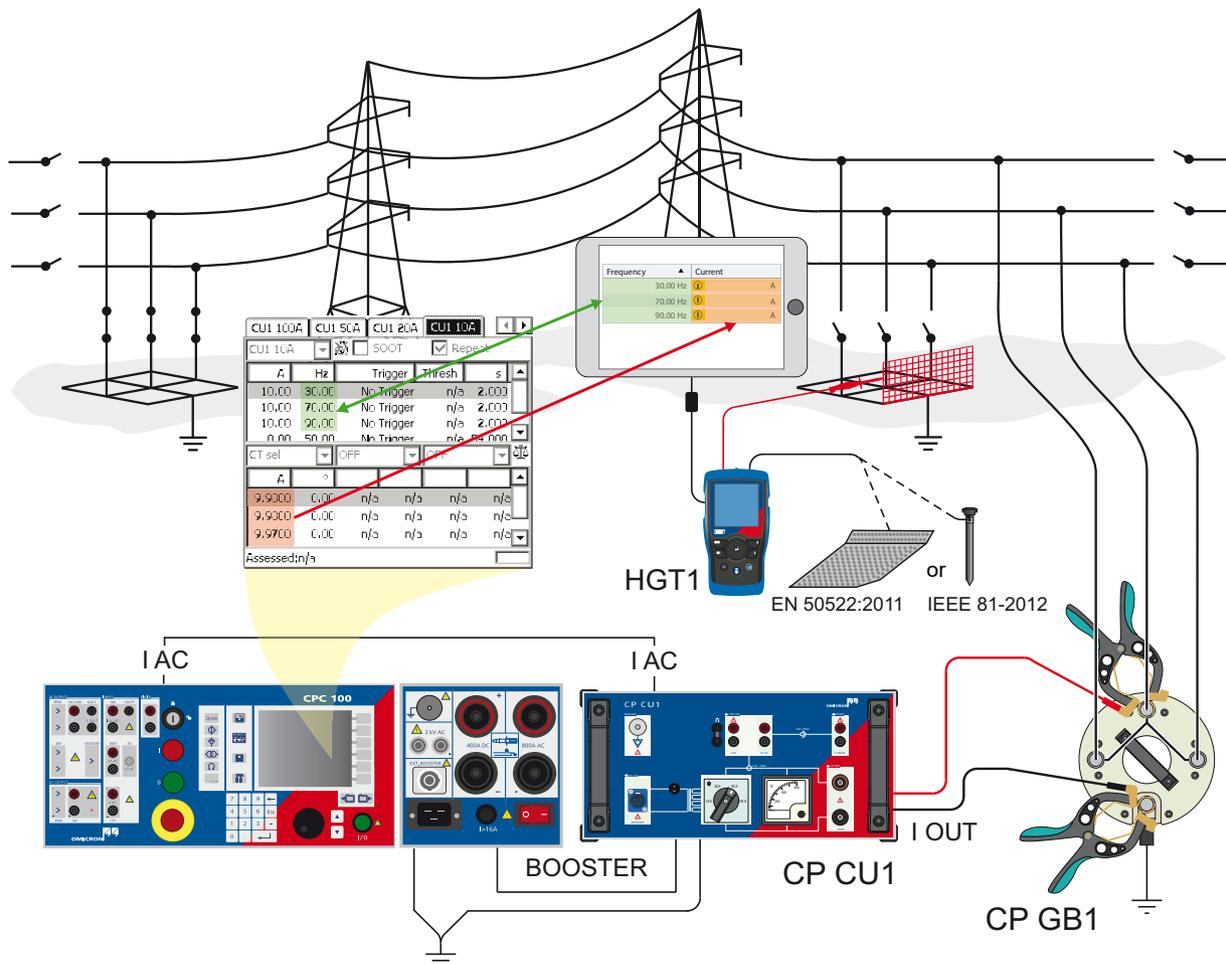

Figure 5-23: Step and touch voltage measurement setup when using *PTM* on a tablet
2. If criterion 3 is met, establish the measurement setup as shown in Figure 5-23 below.